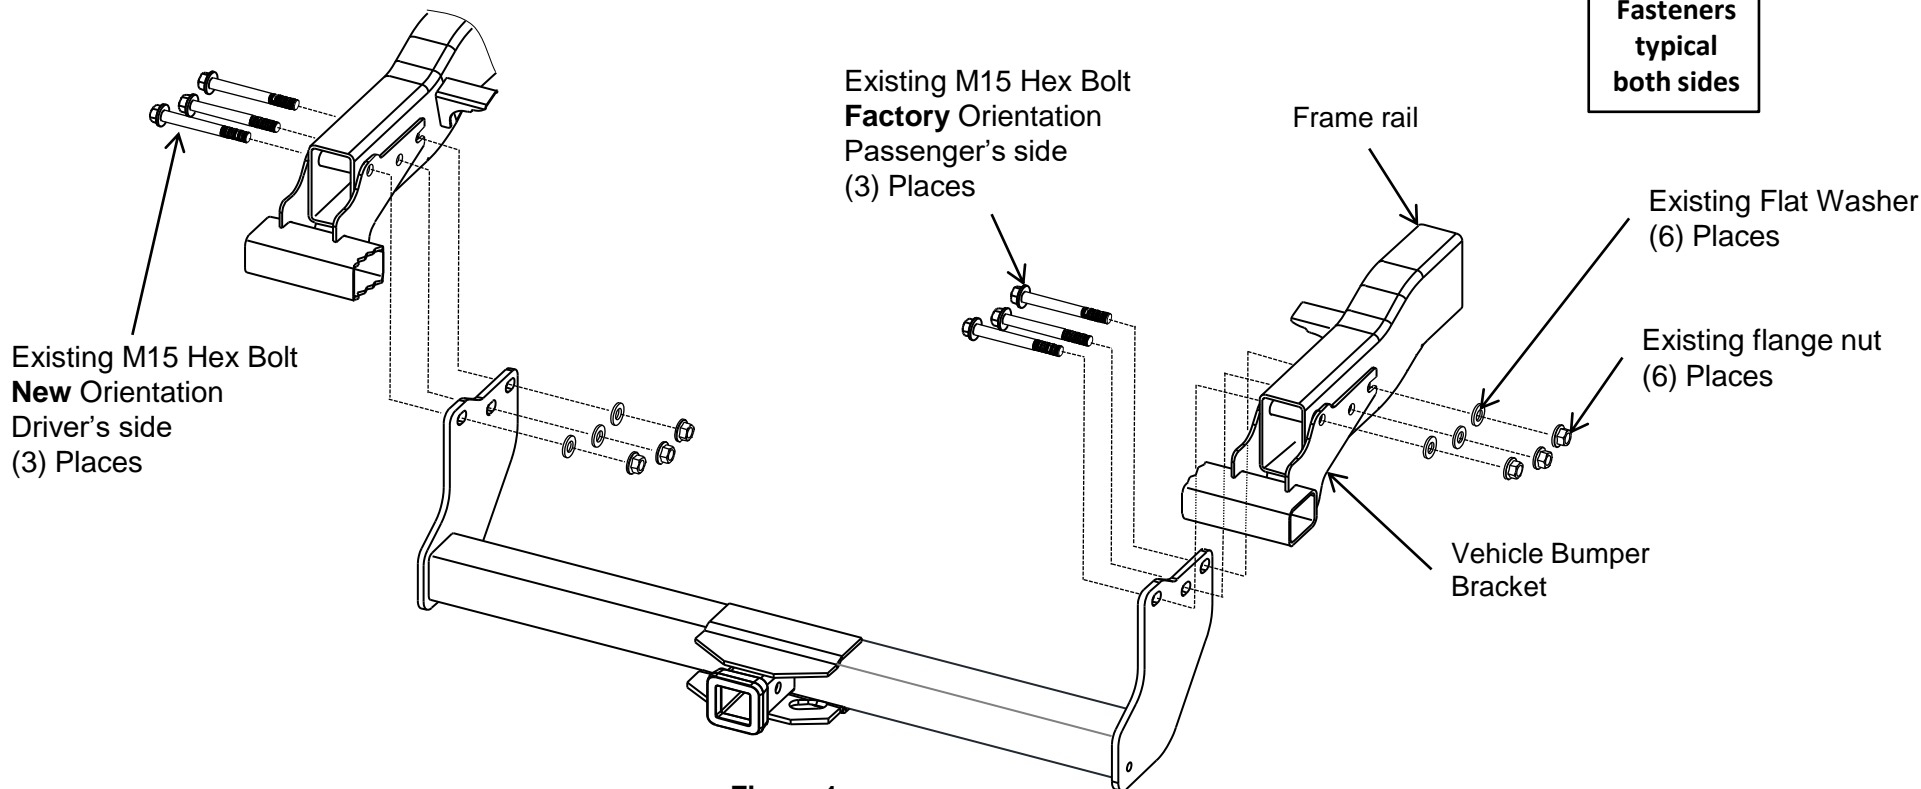

Figure 1
- 1. Remove Factory Bolts** – Using a 22mm socket and 22mm wrench, remove (6) M15 hex bolts, flat washers, and hex nuts holding vehicle bumper (3 per side), near rear of vehicle. See **Figure 1**.
- 2. Install hitch** – Raise hitch into position between the inside of frame rails and bumper brackets. Loosely install (6) factory M15 bolts as shown in **Figure 1**. Apply blue thread locker to threads of all bolts. Install factory flat washers and hex nuts onto factory bolts, (6) places.